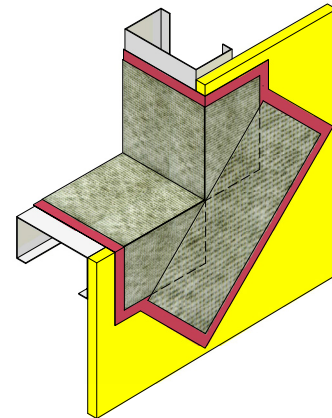

Figure 24
4. Cut WS Flash to desired size. Remove release film immediately before application. Using a roller firmly press the WS Flash keeping the membrane smooth. (See Figure 24)